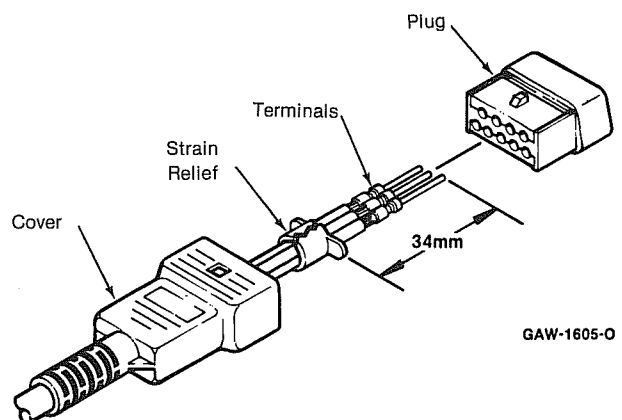

Figure 19
(2) Remove the wire terminals from the plug. Spread the strain relief apart with pliers and remove it. Route the wire (with terminals attached) out through the connector cover.
(3) To re-assemble, follow the reverse of the same procedure, being sure to position the strain relief properly (Figure 19).